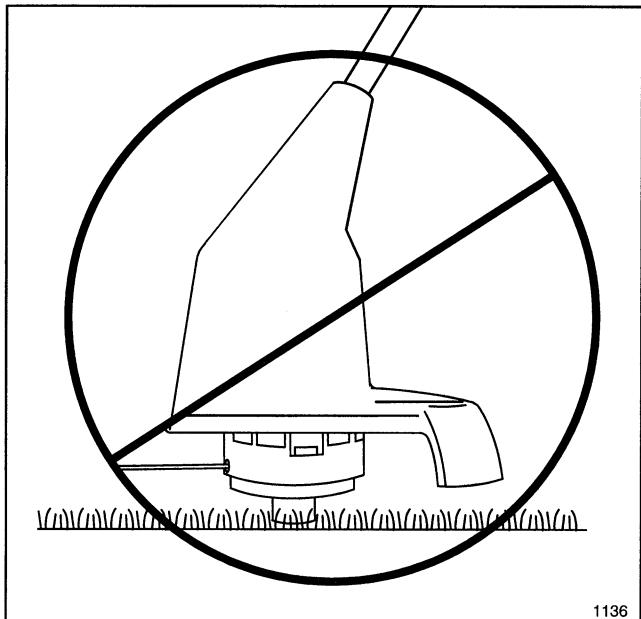

Figure 9
8. **Never drag the trimmer spool on the ground while trimming (Fig. 9). This causes motor overload and spool wear.**